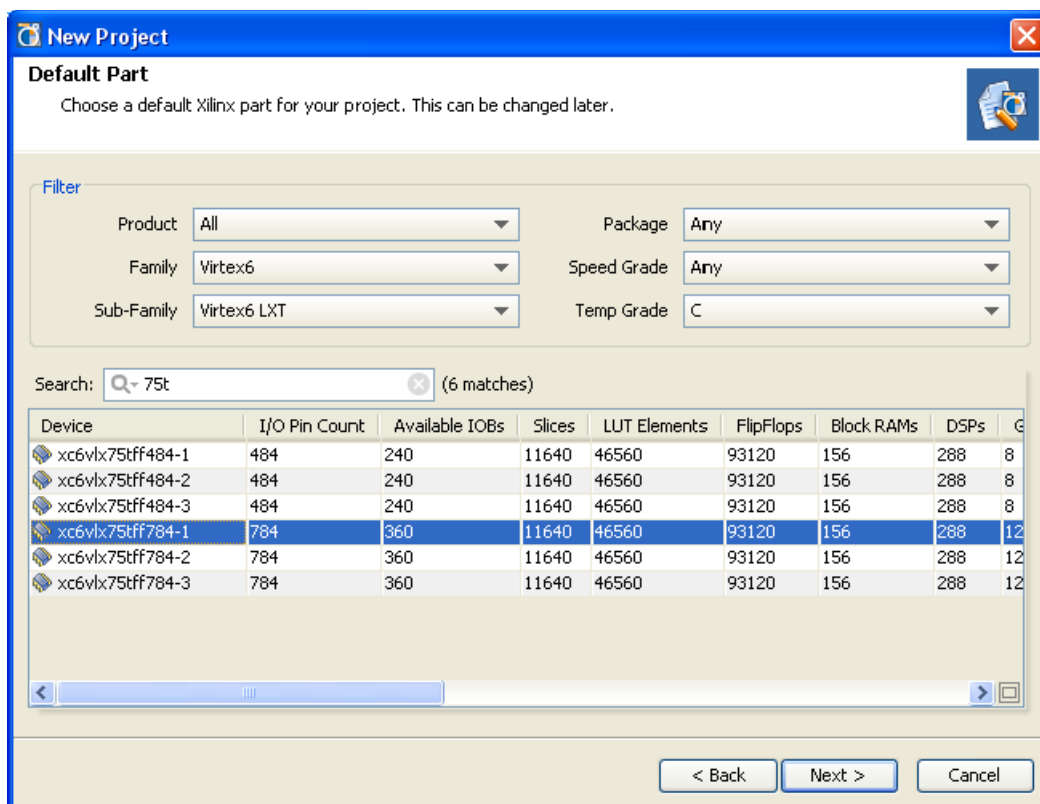

Figure 4: Selecting a Family and Default Part
13. In the Search field, type **75T**. Notice the 75T devices listed (see Figure 4).